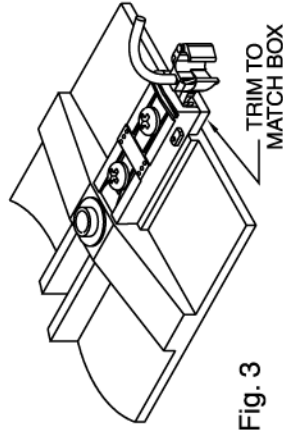

Fig. 3
- 5) Now assemble the coupler, omitting the Cover as shown in Fig. 3. The coupler parts will stay in place if handled gently. Grasp the assembly by the coupler head, carefully place it in position, and screw it in place. Do not over tighten the screws. Check for free operation of the coupler, and loosen the screws slightly if needed. This mounting technique should place the coupler centerline at the NMRA standard height.